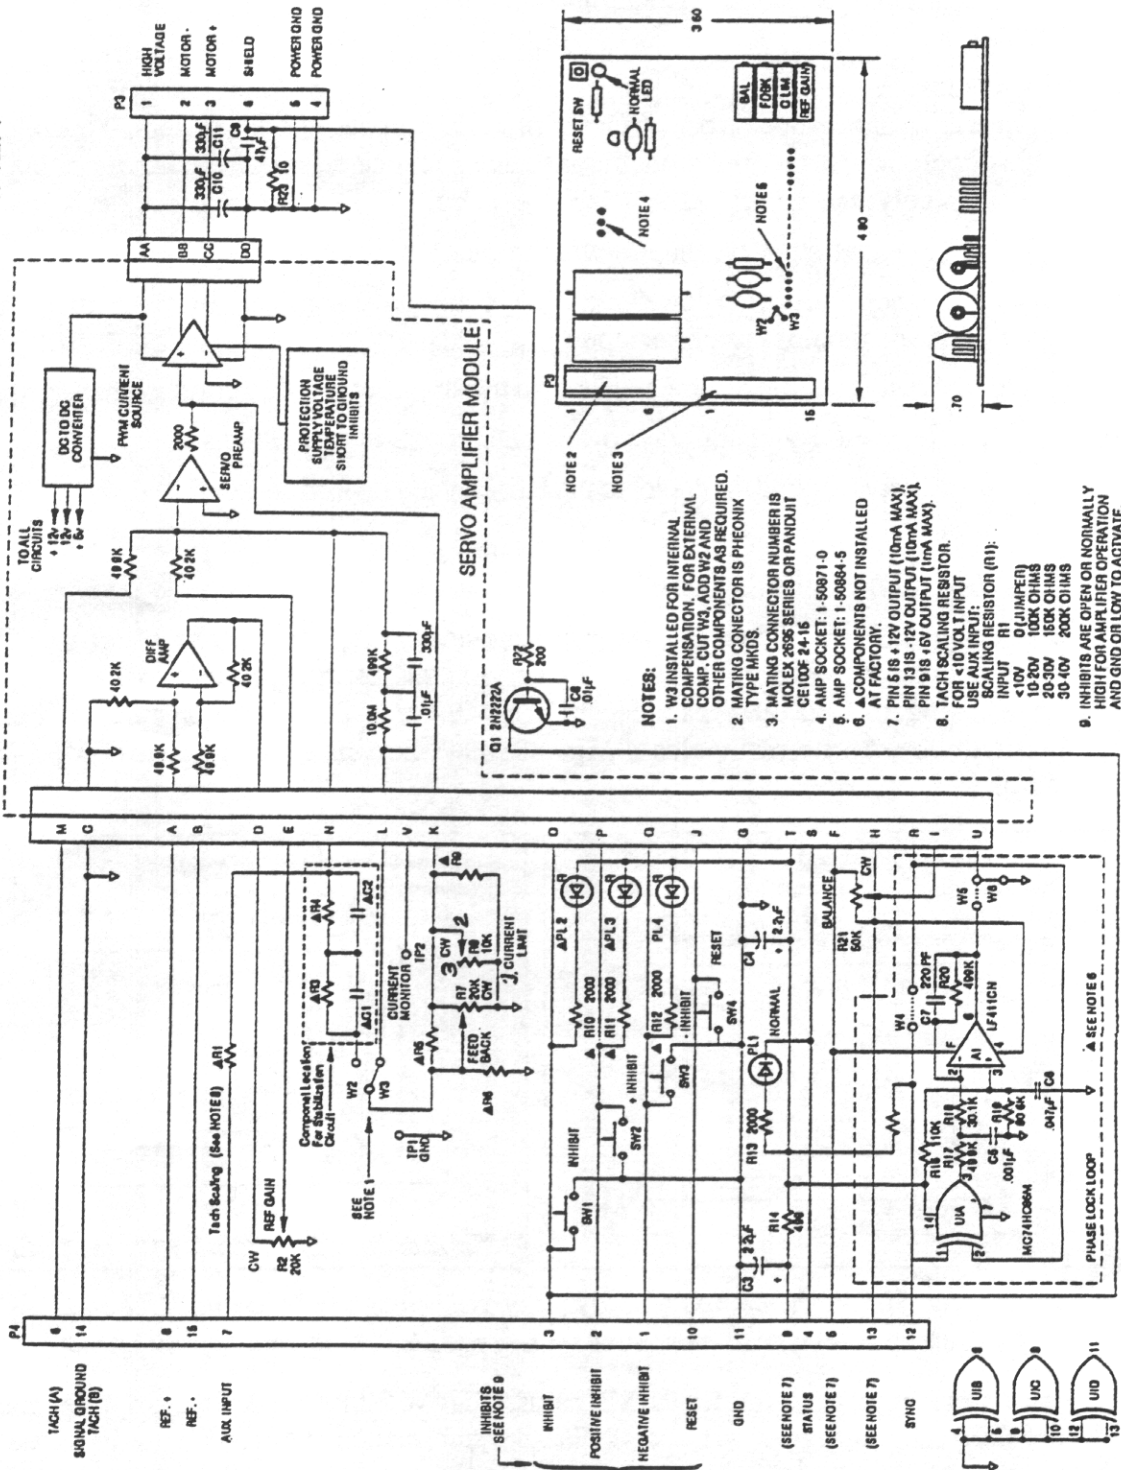
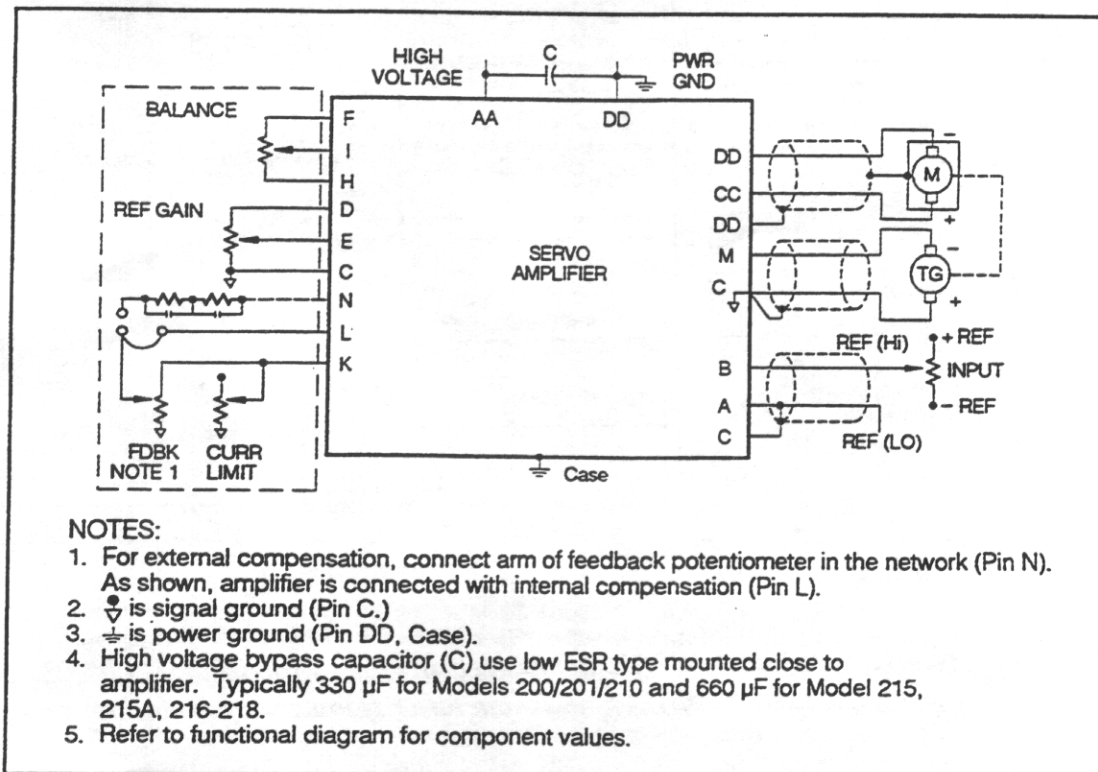

**Figure 3:** Shows the component layout of plug-in auxiliary cards MB1 - MB3, which enable user to customize system parameters to their application
Figure 5: Typical amplifier/motor/tachometer connection scheme.
Copley Controls Series 200 amplifiers provide auxiliary functions through the various mounting cards (MB cards). These cards carry external components used to shape amplifier response, gain, and other parameters. The MB cards also define whether inhibits are normally-open or normally-closed. Figure 3 shows the outline dimensional for MB1 - MB3 cards.
The outline drawings of the various Series 200 Auxiliary Function Cards, Figure 3, identifies the locations of all components available for adjustment. These MB function cards typically form an integral part of the amplifier in most applications. Figure 5 shows a typical amplifier, motor, tachometer connection scheme.
- A. Improper grounding. Refer to Section 1.9 (also Fig. 3).